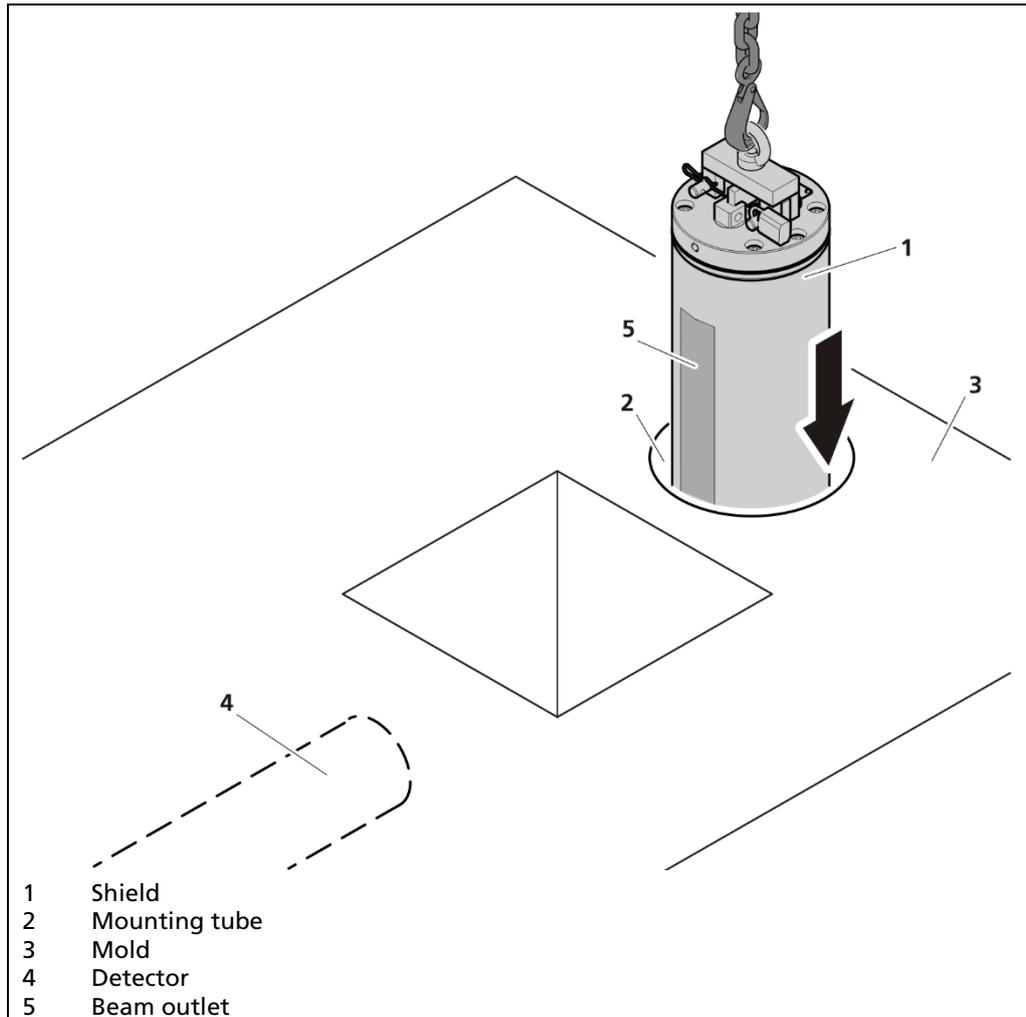

Fig. 6 Installation of an operation shield
6. Position the operation shield in a way that the radiation beam outlet (Fig. 6, pos.5) is directed towards the detector (Fig. 6, pos.4).
7. Slowly lower the operation shield into the mounting tube (Fig. 6, pos.2) at the mold.